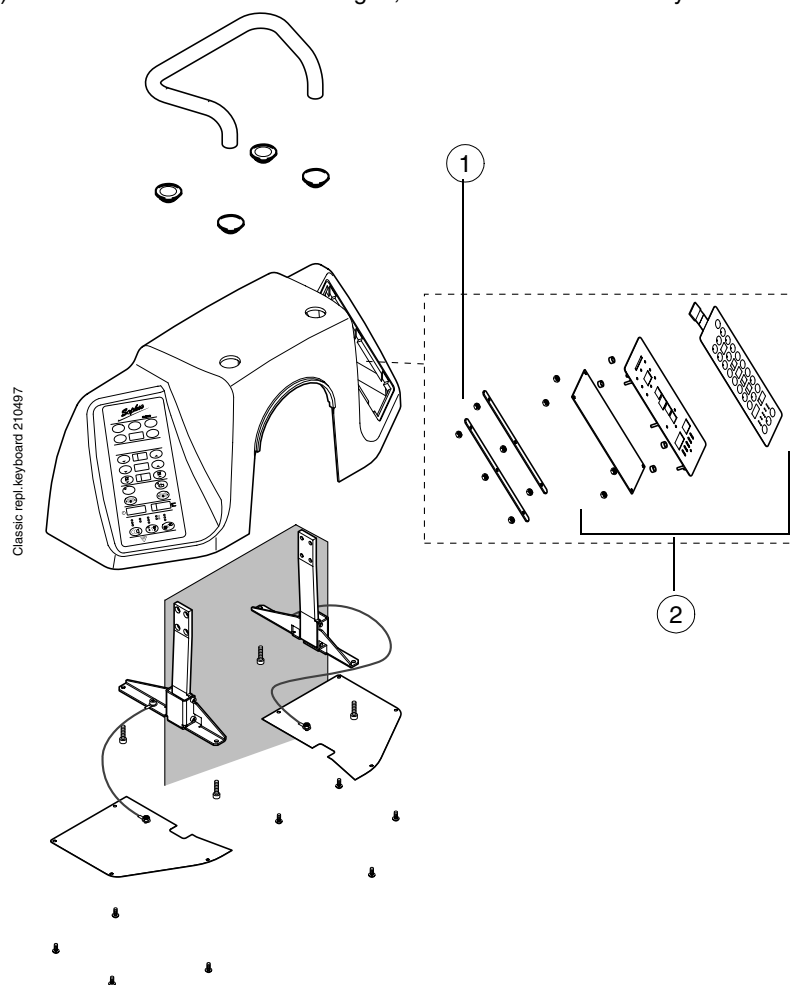

Figure H.25
- Unscrew the six nuts of the Display PCB assembly (Fig. H.25 , 1) and remove the assembly from the hood (Fig. H.25, 2).